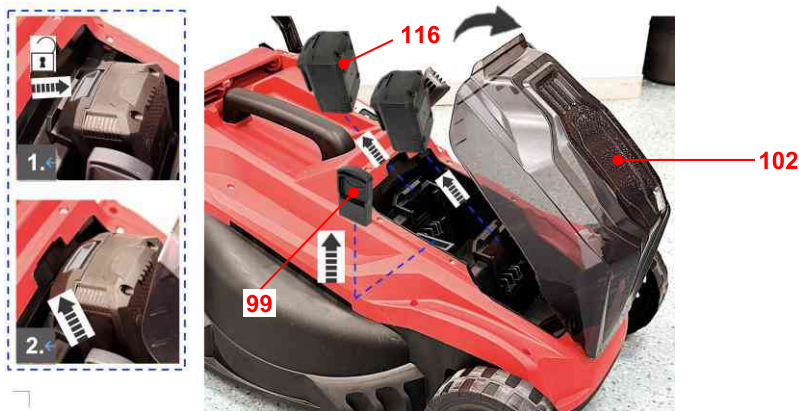

Fig. 1
1. Open the transparent cover (102); remove the safety key (99) and battery packs (116) (Fig. 1).